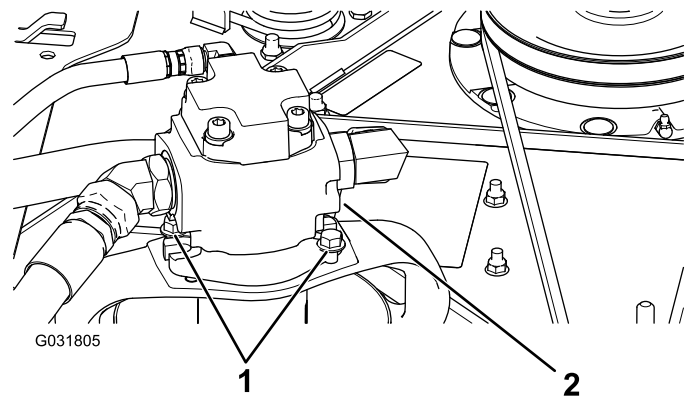

Figure 125
- Remove the bolts securing the hydraulic motor to the cutting unit (Figure 125).